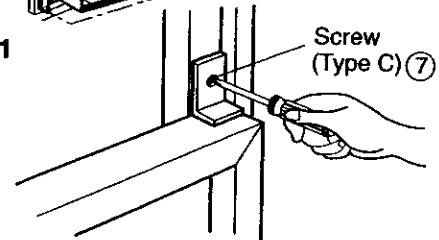

Figure 92
14. Attach the window locking bracket ⑩ with TYPE C screw ⑦ (See Figure 92)